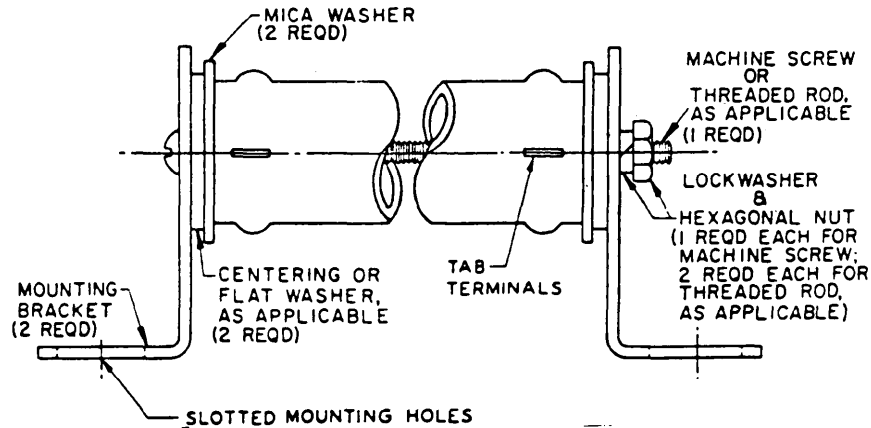

FIGURE 101-2. Bracket assembly.
2.4 Mounting. Under conditions of severe shock or vibration, or a combination of both, resistors of all sizes described in this section should be mounted in such a fashion that the body of the resistor is restrained from movement with respect to the mounting base. It should be noted that if clamps are used, certain electrical characteristics of the resistor will be altered. The heat-dissipating qualities of the resistor will be enhanced or retarded depending on whether the clamping material is a good or poor heat conductor. Under less severe vibration conditions, axial lead styles may be supported by their leads only. The lead lengths should be kept as short as possible, .250 inch or less preferred, but not longer than .625 inch. The longer the lead, the more likely that a mechanical failure will occur. For mounting of tab-terminal resistors, use bracket assemblies specified on MS75009. Figure 101-2 provides an outline of these assemblies; see MS sheet for detailed information.